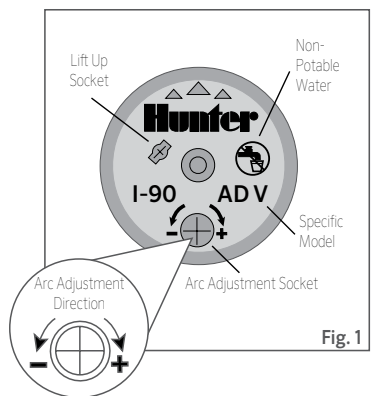

Fig. 1
1. Insert the plastic key end of the Hunter wrench into the adjustment socket (Fig. 1 & 2).